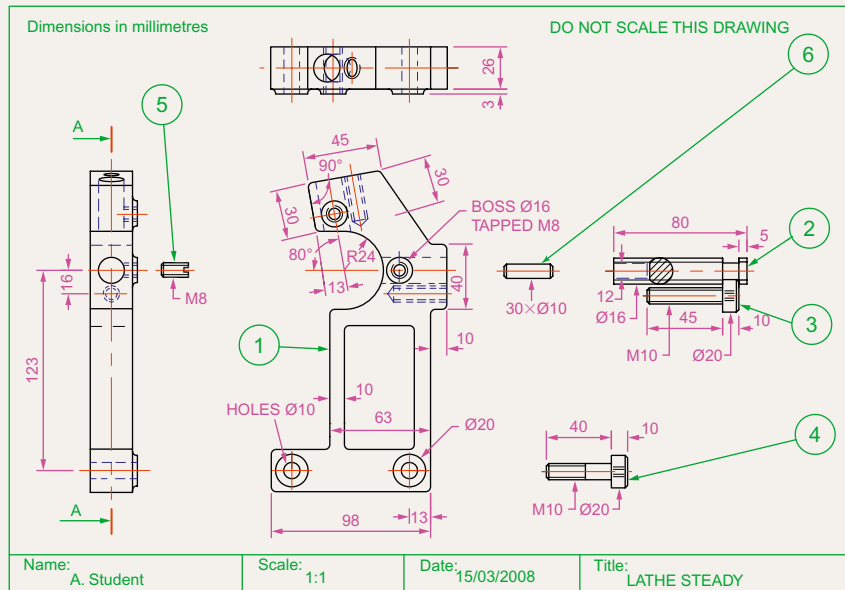

Fig. 17.43 Exercise 7 – details
- 7. An orthographic projection of the parts of a lathe steady is given in Fig. 17.43. From the dimensions shown in the drawing, construct an assembled 3D model of the lathe steady.